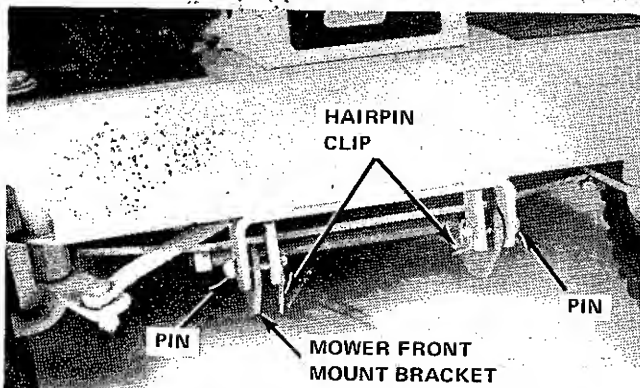

Figure 6-8. Mower Front Mount Brackets
4. Supporting front end of mower, remove two hairpin clips and pins attaching front of mower to vehicle. (Figure 6-8). Slowly lower mower and slide it out from under vehicle.
1. Move mower under vehicle and, supporting front end of mower, secure it to front end brackets with two pins and hairpin clips (Figure 6-8).